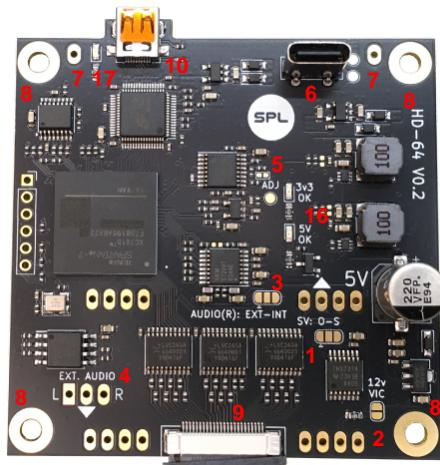

Figure 4. HD-64 Legend (Top)
1. Once the steps in Section 3.3 have been carried out and **before** performing any other step, turn on the computer and verify that both power leds are turned on (Item 16 in Figure 4).
1. (optional) In order to permanently fasten the HD-64 to the motherboard, drive a long pin or a piece of wire through the retainer pins close to the rear of the HD-64 (Item 7 in Figure 4) and solder one end to the top of the HD-64, and the other end to the exposed ground plane on the motherboard. (It is generally necessary to remove the motherboard from the case to perform this step)
Once all the steps in Section 3.3, Section 3.4 and Section 3.5 have been performed turn on the computer. The status LED next to the HDMI connector (Item 17 in Figure 4 should turn solid-green. If this does not happen this might indicate that the flat cable is not connected properly.
The jumper denominated "AUDIO ® EXT-INT" (Item 3 in Figure 4) controls whether the right audio channel receives the signal coming from the motherboard through the RF-Modulator header or the one coming from the "EXT. AUDIO" header (Item 4 in Figure 4). The right audio channel **receives no signal** until one side of the jumper has been closed.
The jumper denominated "SV: O-S" (Item 1 in Figure 4) determines whether the amplitude of the chroma signal (on the S-Video analog output) matches that of an original RF-Modulator, or if it should have the lower "standard-compliant" amplitude. **No chroma is available** on the S-Video analog output until one side of the jumper has been closed.
The jumper denominated "12v VIC" (Item 2 in Figure 4) should be closed when a 12v VIC-II is being used (VIC-II models 6567 & 6569).
In the unlikely case that the performance of the video synchronization circuit drifts over time, to the point that synchronization is no longer obtained (HDMI video output absent or unstable) it is possible to close the jumper denominated "ADJ" (Item 5 in Figure 4) to bring the synchronization circuit back within the optimal range of operation.